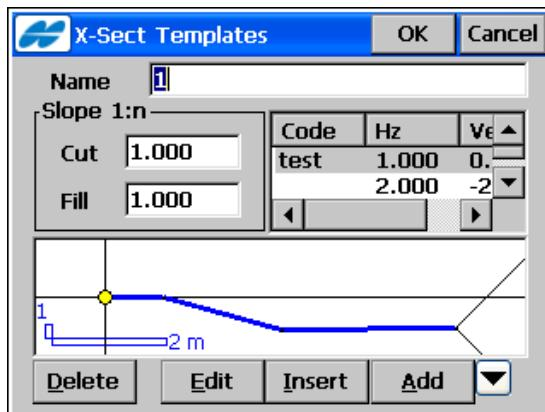

Figure 7-24. Edit X-Sect Template
- **Edit** – opens the properties of the selected template in the next *X-Sect Templates* screen (Figure 7-24).
The next *X-Sect Temp* screen (Figure 7-24) displays the parameters of the highlighted template to edit.
The *X-Sect Temp* screen (Figure 7-24 on page 7-25) also contains a list of segments comprising the template and a plot of the template. A list of segments consists of three columns: *Code* (the code of the segment), *Hz* (the horizontal offset), *Vert* (the vertical offset).